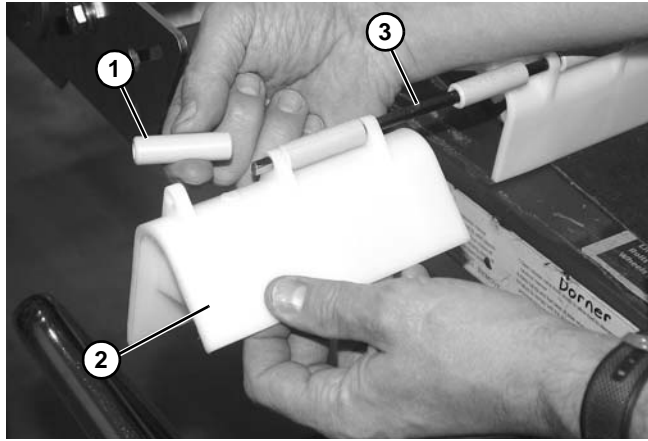

Figure 146
- Slide off spacers (**Figure 146, item 1**) and each wear plate (**Figure 146, item 2**) off of rod (**Figure 146, item 3**).